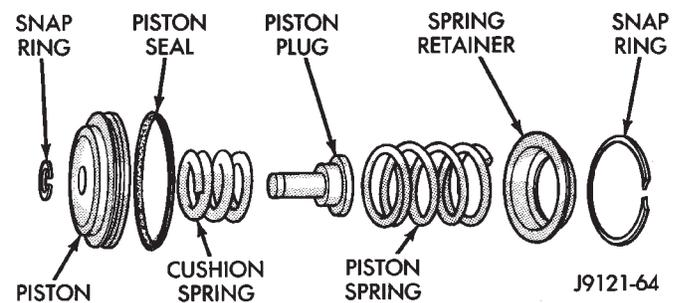

Fig. 162 Rear Servo Components
- (1) Remove small snap ring and remove plug and spring from servo piston (Fig. 162).
- (2) Remove and discard servo piston seal ring.